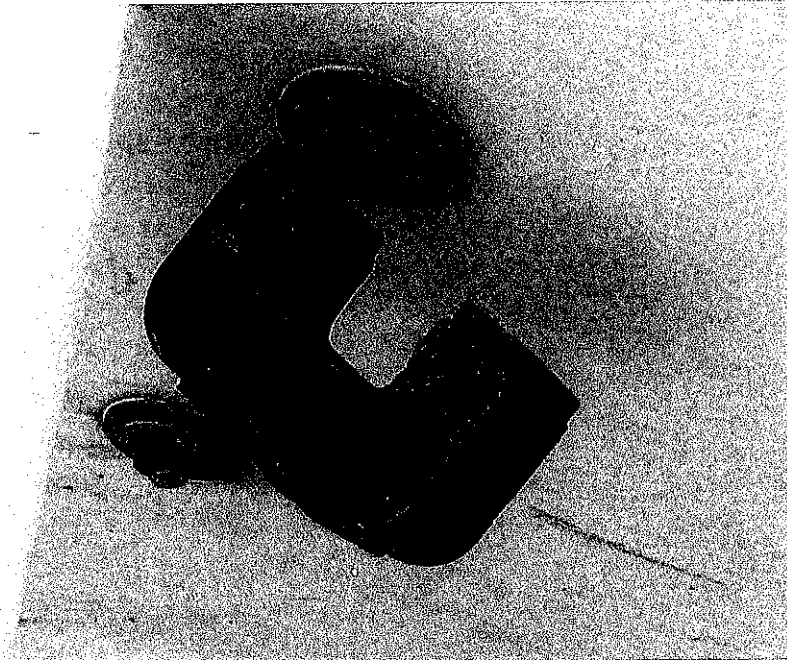

Figure 1 Port and starboard forward beam underside. The bolts need to be replaced with stainless bolts.
1. Figure 1 Repair Items. Forward beams , port and starboard have a ferrous nut that is corroded and should be replaced.